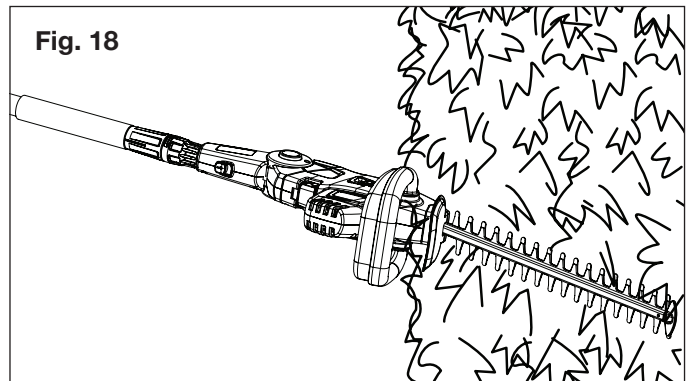

Fig. 18
3. To use pole hedge trimmer for trimming low-lying foliage or ground cover, hold the pole hedge trimmer at the position as shown below (Fig. 18).